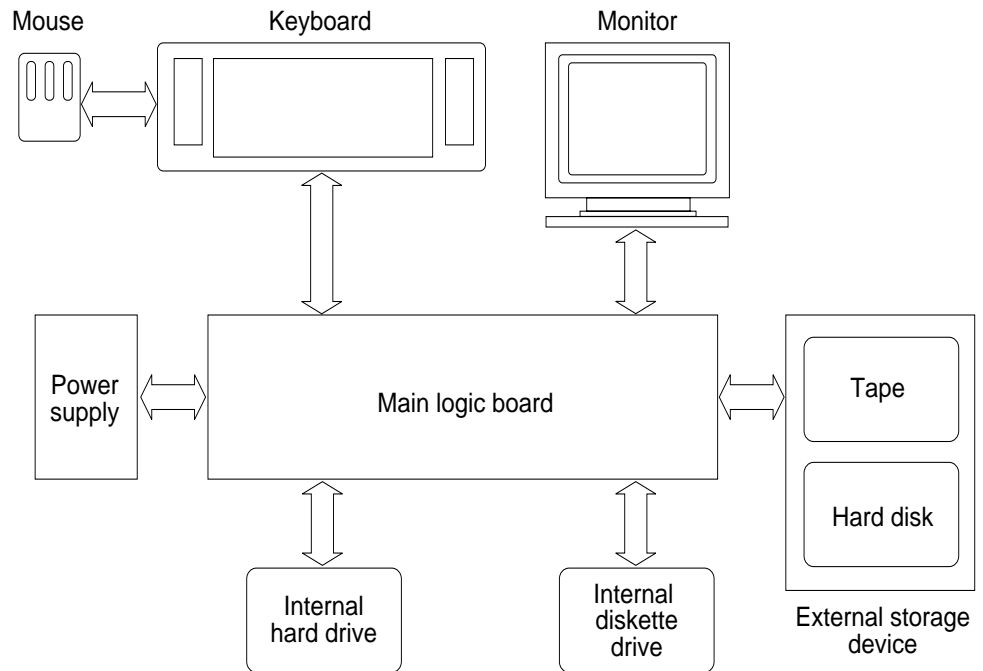
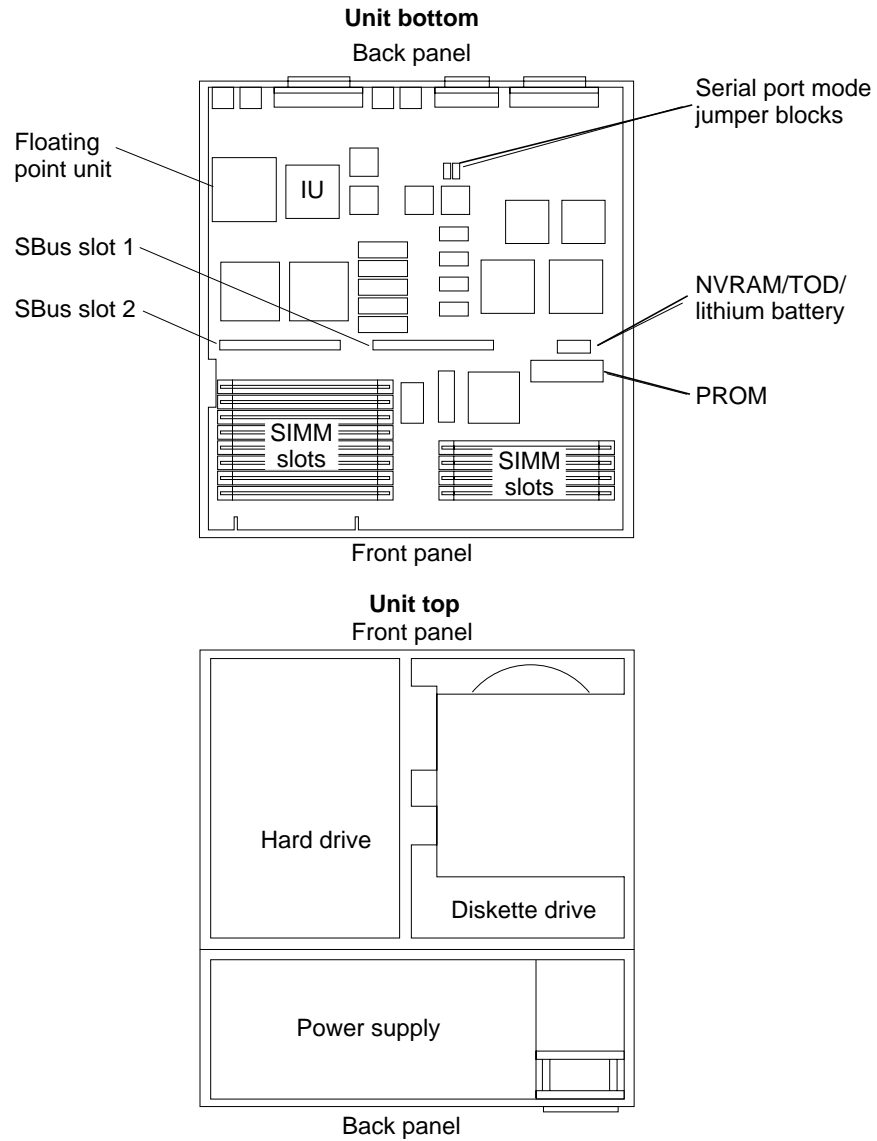
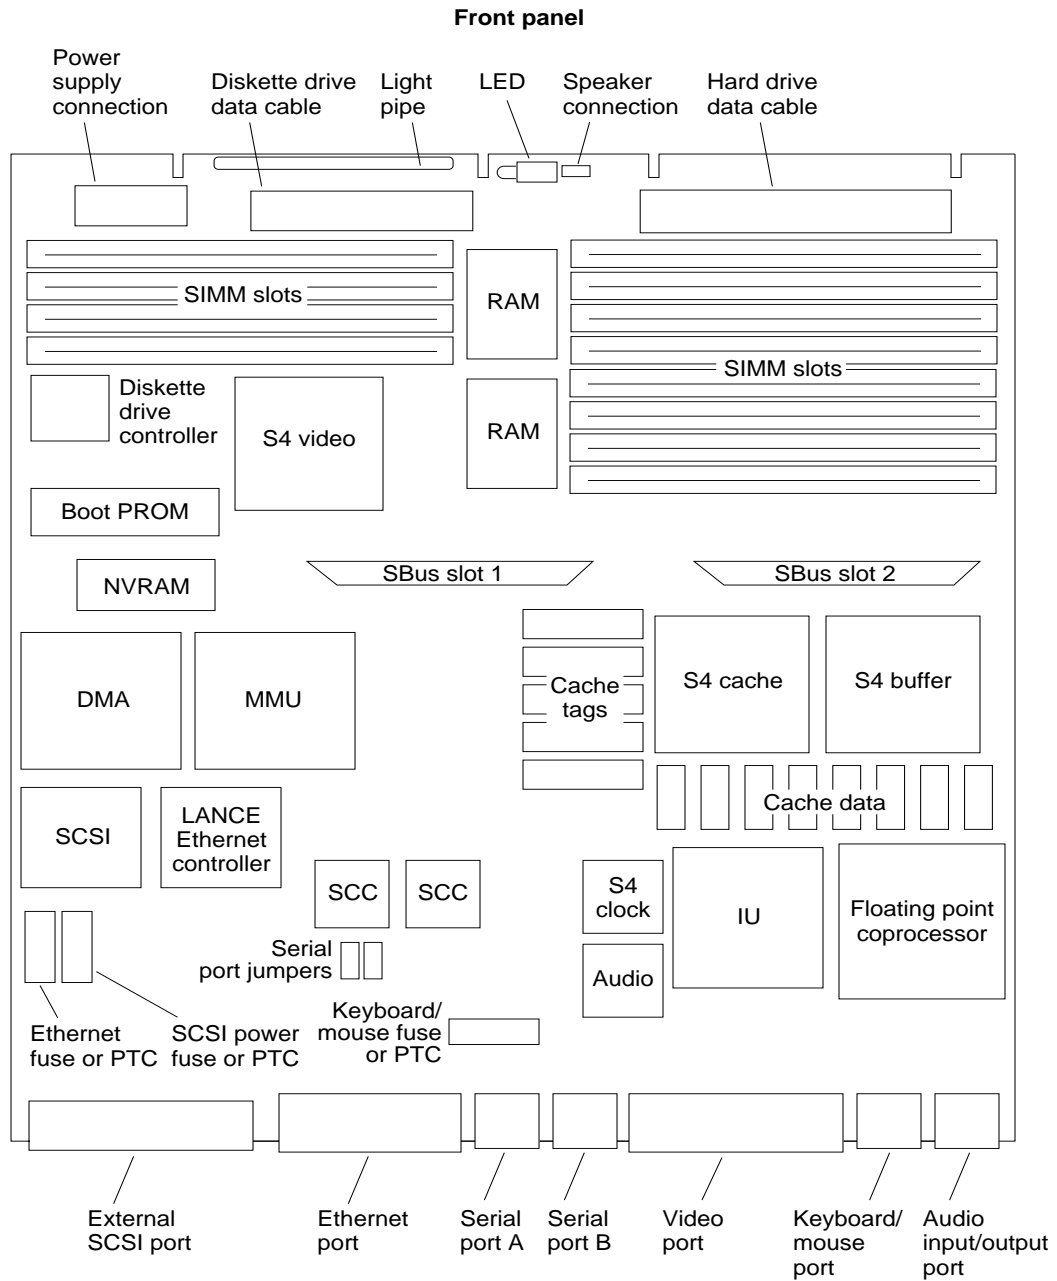
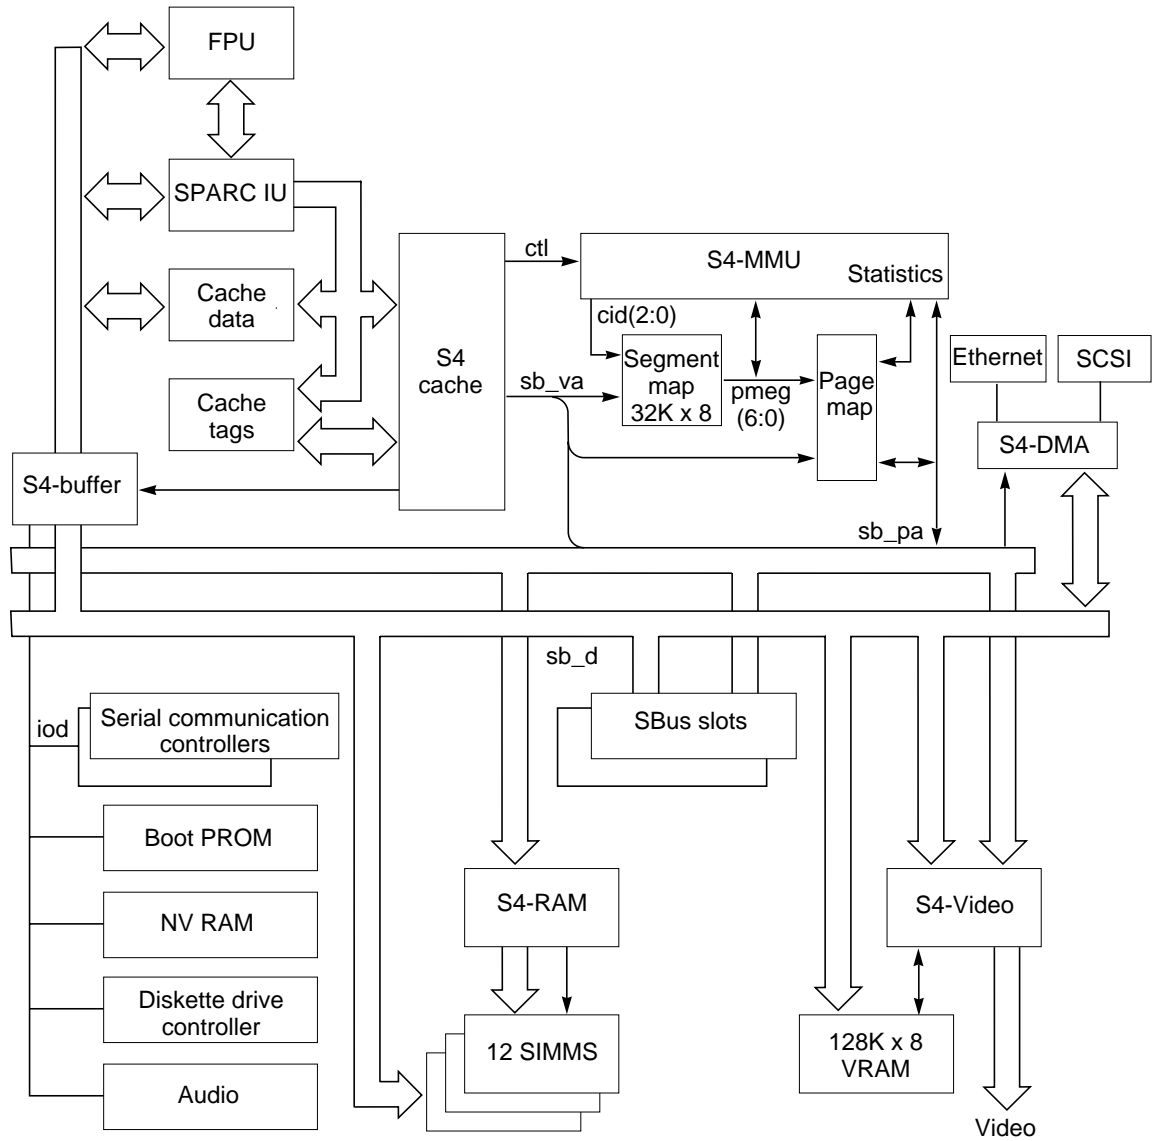

Figure 1-1 SPARCstation IPC With External Storage Device Block Diagram
Figure 1-2 Open View of the System
Figure 1-3 The Workstation's Main Logic Board
Figure 1-4 A Block Level Diagram of the Main Logic Board
Figure 1-1 illustrates the system's configuration with an external storage device. Figure 1-2 presents an open view of the system. Figures 1-3 and 1-4 present the main logic board's layout and a block-level diagram of the main logic board. The balance of the chapter describes the system's components.
Figure 1-1 is a block diagram of one of the workstation's configurations.
Figure 1-3, on the next page, illustrates the main logic board's layout. All chips discussed in "Main Logic Board," which follows, are illustrated in this figure.
The basic core of the main logic board is the SPARC Instruction Unit (IU) (see Figures 1-2, 1-3, and 1-4). The IU's clock speed is 25 MHz. Integer operation is approximately 15 Dhrystone MIPs. The IU is supported with the S4 chip set, including the S4 cache, the S4 memory management unit, the S4 buffer, and the S4 clock.
The floating-point coprocessor (see Figures 1-2, 1-3, and 1-4) delivers approximately 1.75 Mflops double precision Linpack performance.
Cache memory (see Figures 1-3 and 1-4) is high-speed local memory for the IU. The chips comprising cache memory include the following:
The boot PROM (see Figures 1-3 and 1-4) is connected to the I/O data bus. The boot PROM is 128Kx8 for systems with Open Boot PROM Version 1.x or 256Kx8 for systems with Open Boot PROM Version 2.x and contains the boot code and the Forth Toolkit, signified by the `ok` prompt. The Forth Toolkit does not look like other Sun Monitor programs and does not behave like the older Sun PROMs.
The NVRAM chip (see Figures 1-3 and 1-4) contains the time-of-day clock and the non-volatile RAM. The NVRAM chip is connected to the I/O data bus.
Serial ports A and B reside on the main logic board (see Figure 1-3). These serial ports are RS-423 ports, configurable to RS-232, and can connect peripheral equipment such as terminals, printers, and modems by an adapter cable with an 8-pin DIN connector. The serial communications controller chips (Figure 1-4) help to implement the serial ports A and B interface.
A keyboard and mouse port supplied with an 8-pin DIN connector, on the back of the main logic board to the right of the Video port (see Figure 1-3), controls the keyboard and mouse. The serial communications controller chips (Figure 1-4) help to implement the keyboard and mouse interface.
The internal diskette drive is connected to the I/O data bus by the diskette drive controller chip (see Figures 1-3 and 1-4).
The system speaker is connected to the I/O data bus by the audio chip (see Figures 1-3 and 1-4). There is an audio port on the unit back panel. With a split adapter cable (ISDN connector) for microphone and headphone, you can plug the following devices into the audio input/output port:
The S4 memory management unit (MMU) chip, (see Figures 1-3 and 1-4) is connected to the system bus. The MMU maps the virtual addresses used by user programs, SunOS, and input/output devices to physical memory addresses. This is how virtual memory is implemented. Virtual memory allows a user program to have access to an address space that is larger than the physical memory present on the system.
Ethernet is controlled by a Local Area Network Controller for Ethernet (LANCE) controller chip (see Figures 1-3 and 1-4). SCSI disk drive operations are handled through the SCSI controller chip. Both the Ethernet controller and the SCSI controller interface to the SBus through the S4 DMA chip.
- Two S4 RAM chips, illustrated in Figures 1-3 and 1-4
There are two SBus slots on the main logic board (see Figures 1-2 and 1-3). These SBus slots accommodate SBus cards such as a color frame buffer card or a second Ethernet card. The SBus slots are connected to the SBus data bus and the SBus address bus. The SBus is a proprietary 32-bit synchronous bus. See “SBus Cards” later in this chapter for more information on specific SBus boards. “SBus Cards” in Chapter 4 explains how to remove and replace SBus cards.
Ethernet is controlled by a Local Area Network Controller for Ethernet (LANCE) controller chip (see Figures 1-3 and 1-4).
The SCSI hard disk drives and 150 megabyte and 8 mm tape drives are controlled by the SCSI controller chip (see Figures 1-3 and 1-4).
The diskette drive is controlled by the diskette drive controller chip (see Figures 1-3 and 1-4).
The system is shipped with eight 1-megabyte Single Inline Memory Modules (SIMMs). Four megabytes of memory, contained in 1-megabyte SIMMs, can be added (see Figures 1-2, 1-3, 1-4). 4-megabyte SIMMs are also available and can be added in increments of 16 megabytes. If the eight standard 1-megabyte SIMMs are replaced with eight 4-megabyte SIMMs and the remaining four SIMM slots supplied with 4-megabyte SIMMs, the capacity can be increased to 48 megabytes maximum.
Various SBus cards can be added to the system’s two SBus slots on the main logic board. Figures 1-2 and 1-3 illustrate the SBus slots. See “SBus Cards” in Chapter 4 for information on how to remove and replace SBus cards.
One 3 1/2-inch embedded SCSI 207 megabyte hard disk drive or one 3 1/2-inch embedded SCSI 104 megabyte hard disk drive (see Figure 1-2) can be installed in the system unit. Chapter 4 describes how to install the hard disk drive in the system unit.